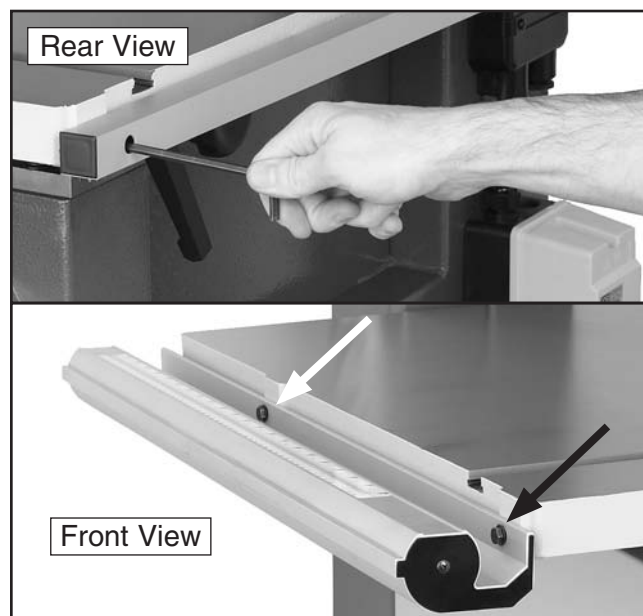

Figure 35. Rail installation.
1. Attach the back square tube to the table with the (2) M6-1 x 16 cap screws as shown in **Figure 35**.
2. Attach the front rail with the (2) M6-1 x 20 hex bolts, 6mm lock washers, and 6mm flat washers, as shown in **Figure 35**.